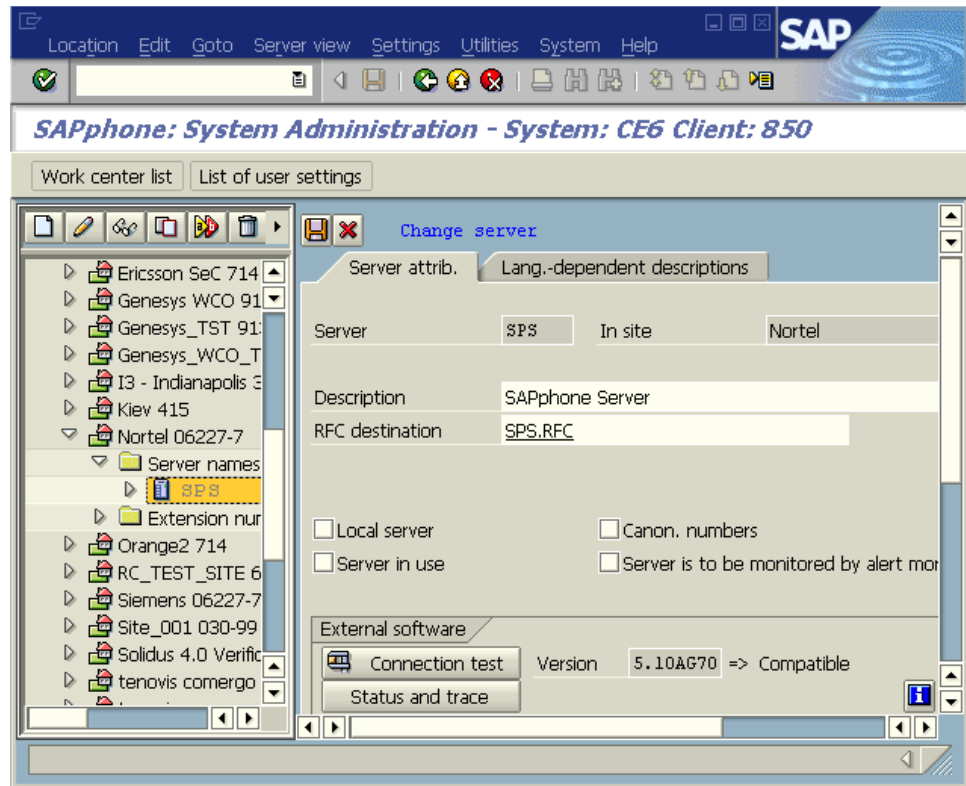

Figure 15: SAP: The Newly Created SApphone Server
7. From the SAP SPFB transaction, create a new SAPphone server based on the RFC destination that you defined in Step 1. You will see that the Server box, which holds the server name, is disabled; this means that the server is inactive (see Figure 15).
Note: Because the SAPphone does not have any settings for ACD Position, it sends only the extension number to the Adapter. The Adapter, in turn, finds the information about the position number in the Place object in the Genesys Configuration Layer, as shown in Figure 15 on page 76.